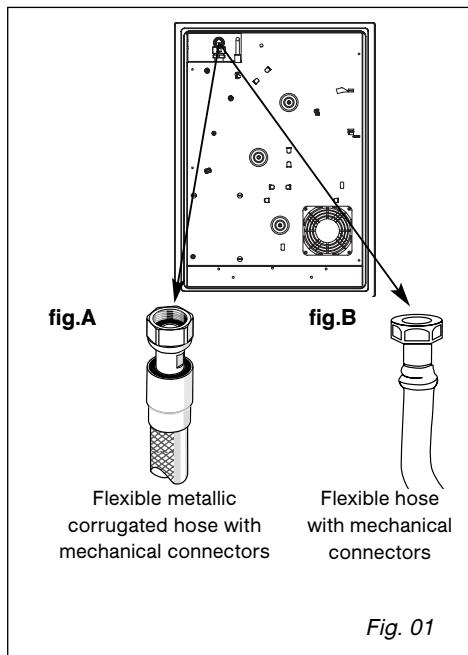

Fig. 01
– **Use a flexible metal hose** (stainless steel) with **screw-on mechanical** connectors (compliant with the NF D 36-125 standard) with an unlimited guarantee (Fig. 01).